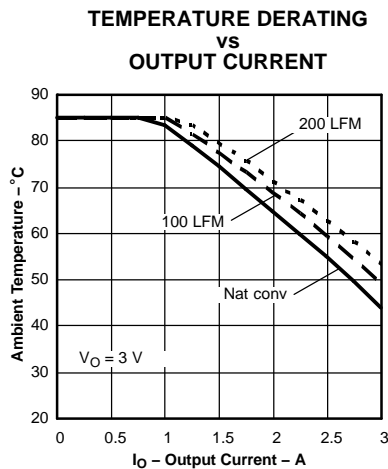
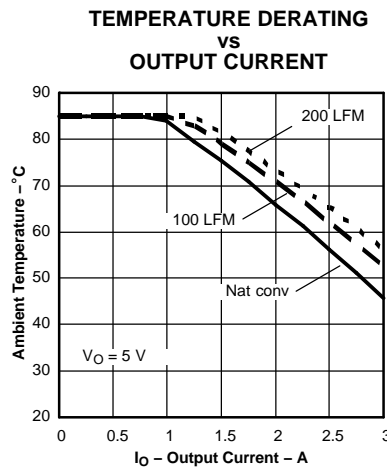
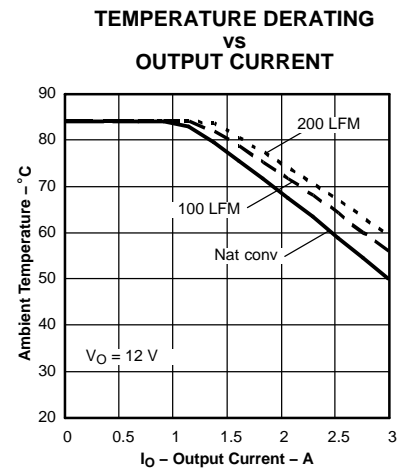

Figure 15.
Figure 16.
Figure 17.
- (6) The temperature derating curves represent the conditions at which internal components are at or below the manufacturer's maximum operating temperatures. Derating limits apply to modules soldered directly to a 100 mm x 100 mm, double-sided PCB with 2 oz. copper. Applies to Figure 15, Figure 16, and Figure 17.